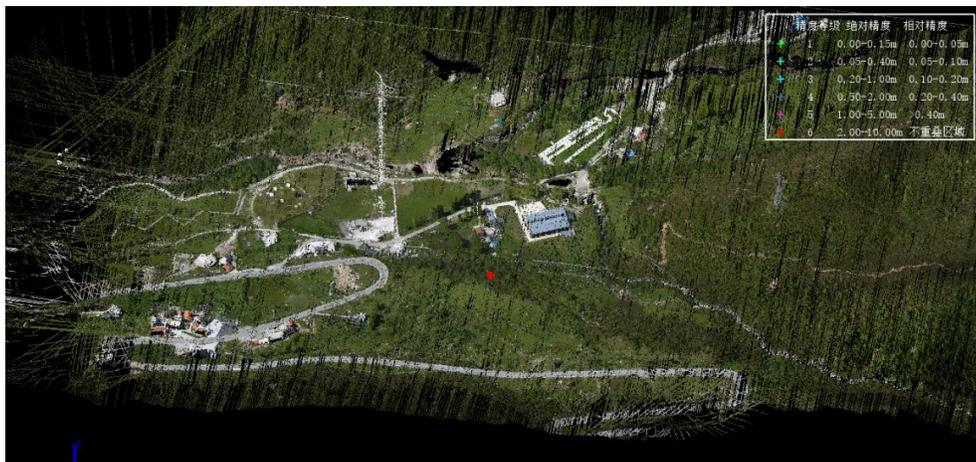

Figure 3-69 Ortho Image colorize effect
- (4) Select a project in the project management panel, right-click <Point Cloud Colorize> to assign color to a single project, or click <Solve> → <Point Cloud Colorize> to assign color to all the checked projects.
- (5) After the color assignment is completed, it will automatically reload the successfully assigned point cloud and display the color assignment effect in true color rendering (Figure 3-69).